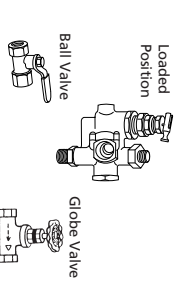

Figure 9
9. After approximately 30 minutes, move the unloader lever down to the loaded position and turn the regulator knob counterclockwise (See Figure 9). The compressor will begin to pump air into the tank.